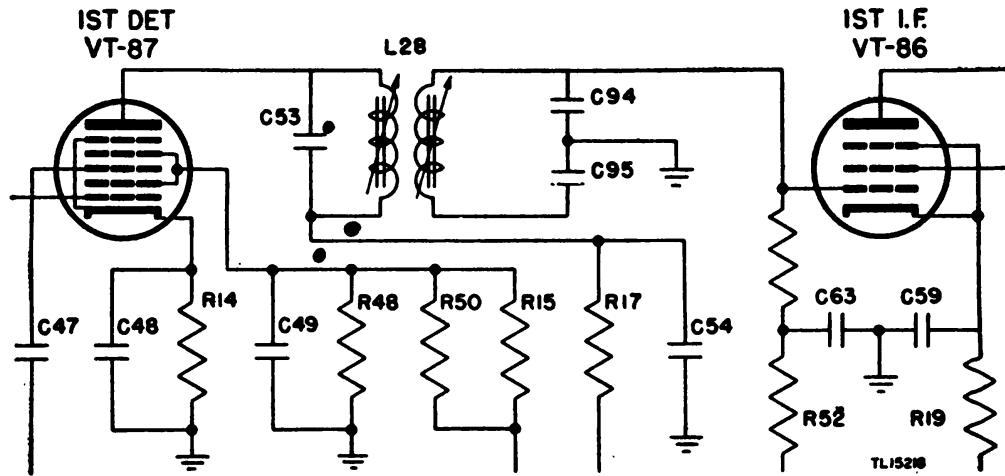

Figure 6.1.—Radio Receiver BC-312-M, revised wiring diagram for first detector transformer L28.
**Figure 6.—Functional circuit diagram \* \* \* see figure 10. (For Radio Receiver BC-312-M, the connections to the secondary of first detector transformer L22 are as shown in figure 6.1.)**